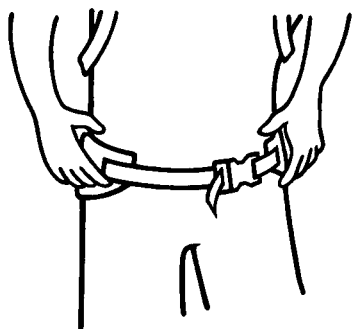

FIG. 18
7. Fasten the waist belt snugly and make sure the weight is resting comfortably on your hips (Figure 18).